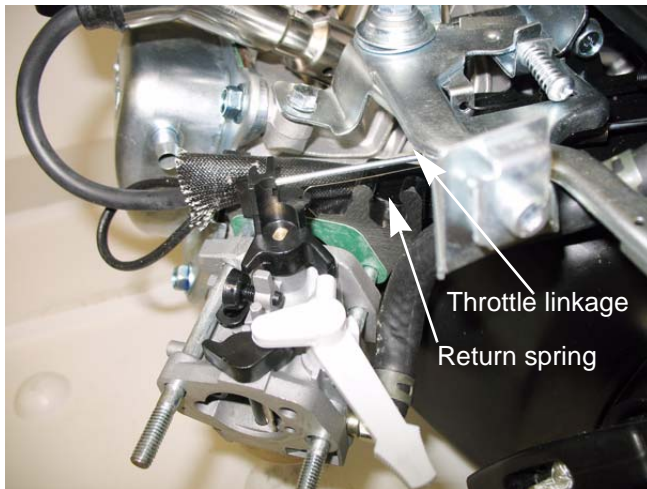

Figure 3.16
- 2b. Disconnect the throttle linkage and return spring. See Figure 3.16.